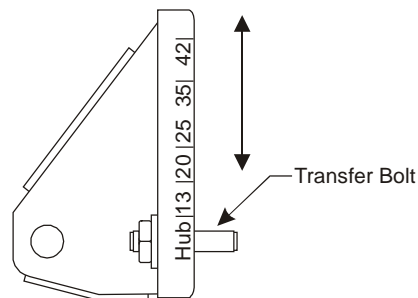

Figure 10: Adjusting the Transfer Bolt (Scaled in Millimeters)
2. Adjust the transfer bolt (as illustrated in Figure 10). The transfer bolt position at its center should correspond to the following values: for a 2-1/2 in. valve, set the transfer bolt to 23 mm; for a 3 or 4 in. valve, set the transfer bolt to 33 mm; for a 5 in. valve, set the transfer bolt to 39 mm; and for a 6 in. valve, set the transfer bolt to 42 mm.
Note: When the valve reaches the end of stroke, the ohmmeter should read a nominal end resistance of 1,850 to 1,950 ohms. If the resistance is too low or if the maximum resistance occurs before the valve reaches the end of stroke, adjust the transfer bolt (as illustrated in Figure 10).
3. Move the action mode switch to Position II for Reverse Acting (RA) mode. In the RA mode, the actuator travels up as the input signal increases.
6. Adjust the transfer bolt (as illustrated in Figure 10). The transfer bolt position at its center should correspond to the following values: for a 2-1/2 in. valve, set the transfer bolt to 23 mm; for a 3 or 4 in. valve, set the transfer bolt to 33 mm; for a 5 in. valve, set the transfer bolt to 39 mm; and for a 6 in. valve, set the transfer bolt to 42 mm.
16. Adjust the transfer bolt (as illustrated in Figure 10) if the adjustment range is not sufficient. If the voltage span is too high, move the transfer bolt in the direction of larger strokes. If the voltage span is too low, move the transfer bolt in the direction of smaller strokes. The transfer arm must remain parallel to the feedback arm.